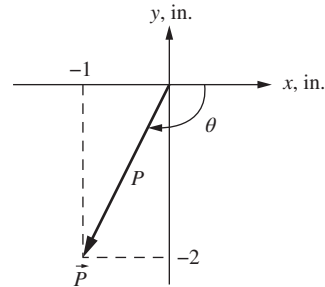

Figure P4.12 A position vector for problem P4-12.
- 4-12.** The x - and y -components of a vector \vec{P} shown in Fig. P4.12 are given as $P_x = -1$ in. and $P_y = -2$ in. Find the magnitude and direction, and write the vector \vec{P} in its rectangular and polar forms.